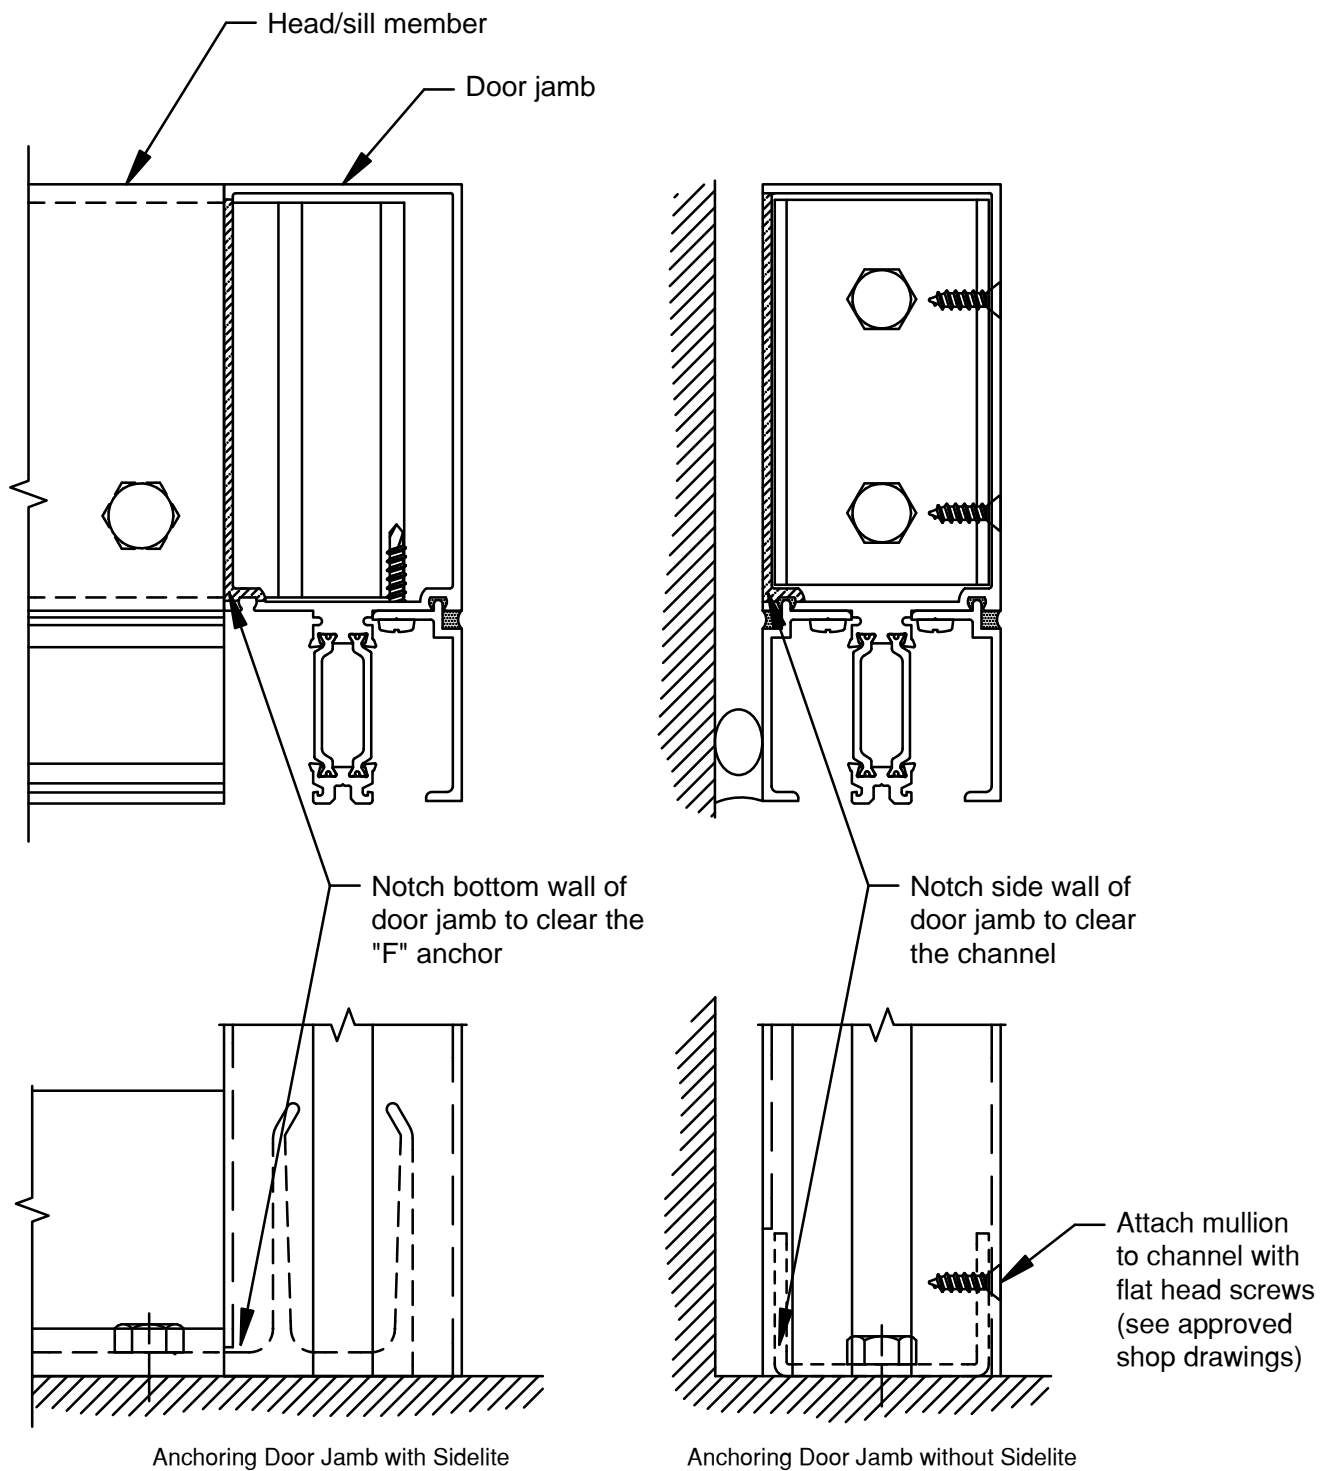

FIGURE 26
C.1 Curtain wall verticals and door subframes run through to finished floor. Bed adjacent curtain wall verticals in sealant and anchor to floor per approved shop drawings. SEE FIGURE 26, page 15 for suggestions on anchoring door jamb mullion.